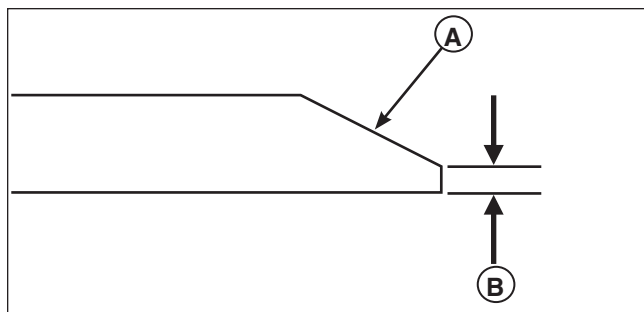

Figure 24. Sharpening the Mower Blade
3. Keep the original bevel (A, Figure 24) when grinding. DO NOT change the mower blade bevel.
4. The mower blade should have a maximum 1/64" (0,40 mm) cutting edge (B) or less.